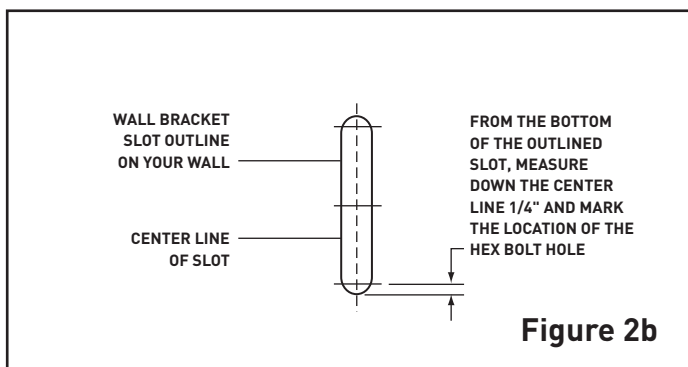

Figure 2b
4. Starting on the Left side. From the bottom of the outlined slot, measure up the center line 1/4" and mark the location of the left Hex Bolt hole. Repeat for the right side. (See Figure 2b).
7a. Install the Hood Unit onto the Hook Screws and ensure it is level. Once level, double check the locations of the Hex Bolt marks, making new marks if needed. Once final Hex Bolt locations are determined, **remove** the Hood Unit and use a 13/64" drill bit to pre-drill holes in both left and right locations for the Hex Bolts as shown in Figure 2b. **Do not** install Hex Bolts at this time.
7b. Install the Hood Unit onto the Hook Screws and ensure it is level. Once level, double check the locations of the Hex Bolt marks, making new marks if needed. Once final Hex Bolt locations are determined, **remove** the Hood Unit and using a 3/16" masonry drill bit, pre-drill pilot holes 1-3/4" deep into the walls at both the left and right locations for the Hex Bolts as shown in Figure 2b. With a 5/16" masonry drill bit, enlarge the holes 1" deep. Insert plastic masonry anchors into the holes, large side out. **Do not** install Hex Bolts at this time.